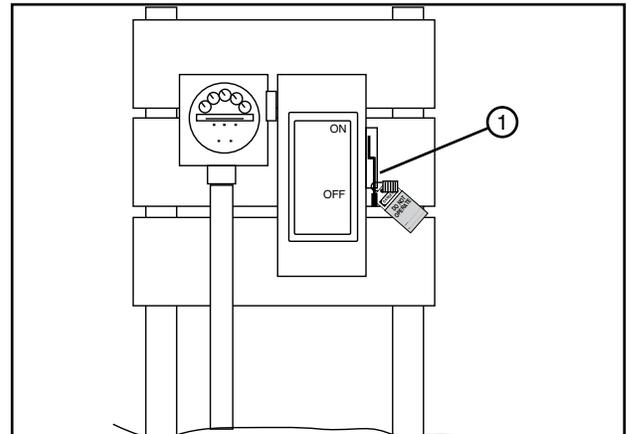

Figure 63-1 1. Public Power Service Disconnect
1. SHUT OFF and LOCK the public power service disconnect to the irrigation machine. See Figure 63-1.
FILL OUT the blue (OSHA safety color code) tag and attach to the disconnect after locking. See Figure 63-1.